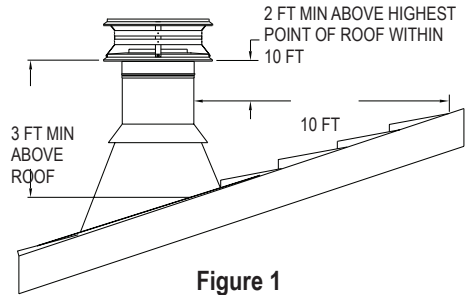
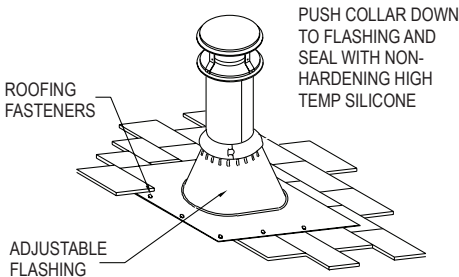

Figure 1
Figure 15
The National Fire Protection Association Standard #211 states: "Chimneys shall extend at least three feet above the highest point where it passes through the roof of a building, and at least two feet higher than any portion of a building within ten feet." (**Fig.1**) DuraTech Chimney may be installed up to 60 feet high. If the chimney extends more than 5 feet above the roof, an Extended Roof Bracket must be used (see page 12). Due to the overlap of the joints, subtract 1-1/4 inches from each Chimney Section's height to calculate installed height.
10. **Attach Flashing:** In new construction, assemble the Chimney Sections to a point above the roof, then slip the Flashing over the chimney. On an existing roof, center and install the Flashing before extending the chimney above the roof. Allow space to permit sliding the next Chimney Section up through the Flashing. Always insure the chimney remains vertical (use a level), and that at least a 2" clearance to combustible materials is maintained all around. Install the upper edge of the Flashing under the roofing. Nail to the roof along the upper edge and down each side with 1" roofing nails. Do not nail the lower edge of the Flashing (**Fig.15**). Seal top and upper sides of flashing with roofing compound or sealant. Be sure to follow local building practices, as needed. Seal all nail heads with a non-hardening waterproof sealant. On flat or tarred and graveled roofs, nail and seal the Flat Roof Flashing to the roof on all sides with roofing compound. Do not put screws through the Flashing into the Chimney Pipe.
11. **Finish Top:** Apply a high-temperature (500°F), non-hardening waterproof sealant around the chimney at the point where the Storm Collar will meet the chimney just above the Flashing (**Fig.15**). Slide the Storm Collar down over the chimney to the top of the Flashing. Tighten and seal the Storm Collar against the sealant. After installing sufficient Chimney Sections to meet the height requirement (**Fig.1**), attach the Chimney Cap onto the top of the chimney by holding the